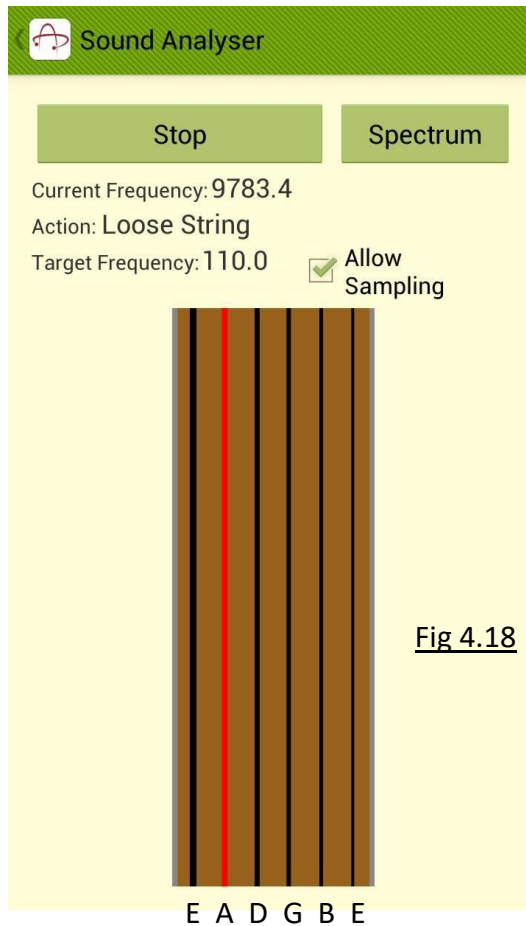

Fig 4.18
- Press on a desired string to fix the target frequency. (String of pitch A is chosen in Fig 4.18.) The words “Auto” will disappear. The Sound Analyzer will stop matching with the guitar string of the closest frequency. Press another desired string to fix another target frequency. Press the same string to return to automatic frequency targeting.